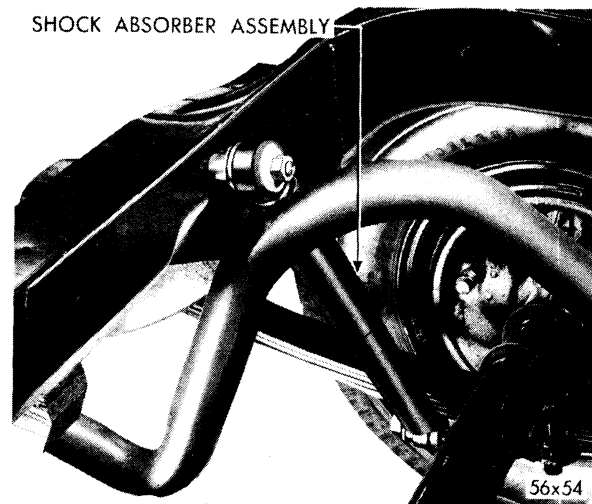

Fig. 13—Rear Shock Absorber Installed
9. REMOVAL AND INSTALLATION OF REAR SHOCK ABSORBERS (Fig. 13)